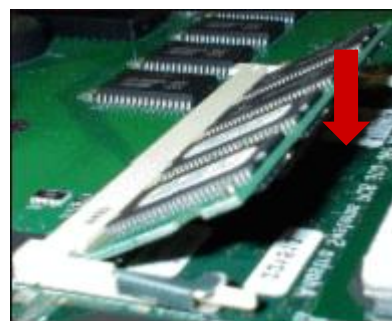

Figure 15: Closing the RAM Socket
- STEP 2:** Place the part number label (LBL-00305-0002) directly on the motherboard as indicated in Figure 15.